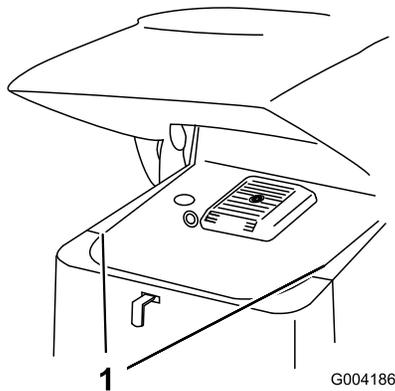

Figure 20
2. Slide the side screens (Figure 20) up and out of the slots in the front screen and frame.